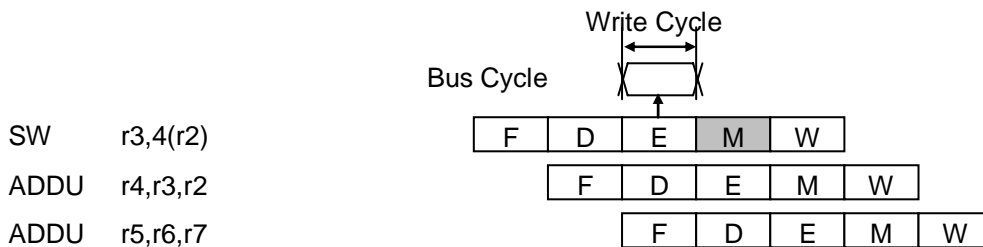

Figure 5-7 Access to the On-chip Fast Memory
The store instruction is to store the data in CPU register to the memory. Figure 5-7 shows how to store to the on-chip fast memory. Stores to the on-chip fast memory occur during the Effective Address Calculation (E) stage and they take 1 clock as a write bus cycle. No operations occur in the Memory Access stage and the Register Write-back stage.